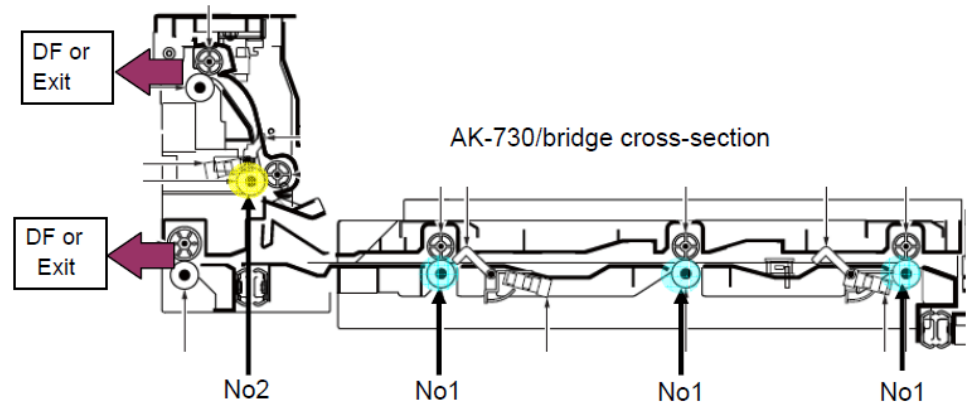

Fig 1
5. Check the material of roller at the bridge conveying-in unit (Fig.1)